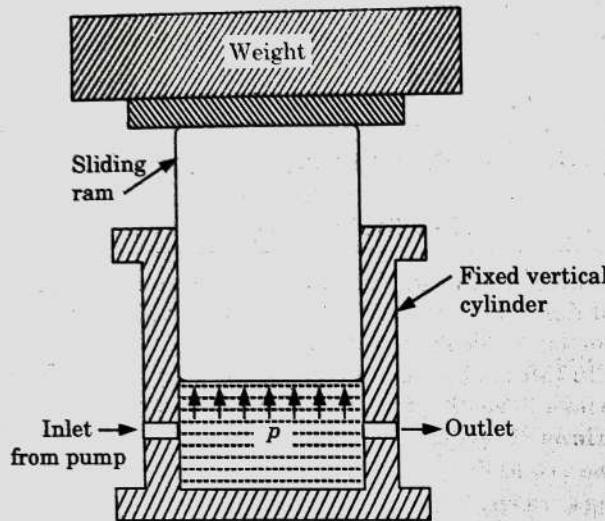

Fig. 3.22.1. Hydraulic accumulator.
1. Fig. 3.22.1 shows a simple hydraulic accumulator.